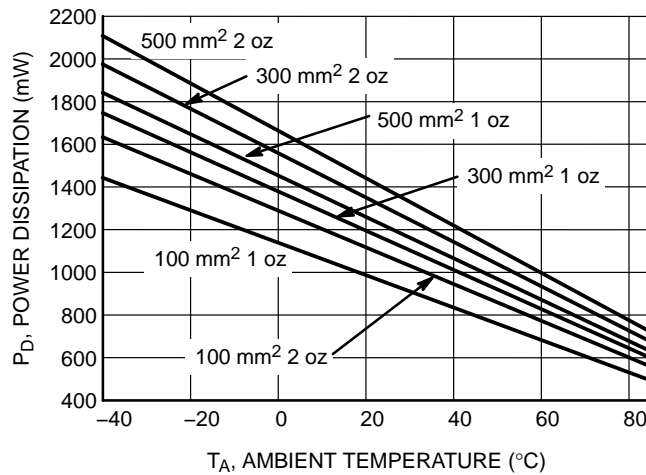
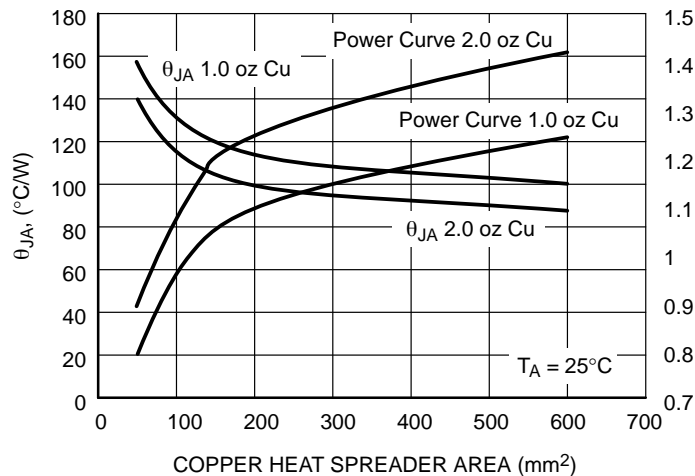

Figure 3. Power Dissipation vs. Ambient Temperature (SOT-223) @ $T_J = 150^{\circ}\text{C}$
Figure 4. SOT-223 θ_{JA} and P_D vs. Cu Area
Figure 3 shows power dissipation over changes in ambient temperature for the SOT-223 package. Figure 4 shows θ_{JA} ($^{\circ}\text{C}/\text{W}$) and P_D (W) for various Cu areas and thicknesses. These tables and graphs illustrate the effect of Cu area, thickness and ambient temperature (T_A) over the